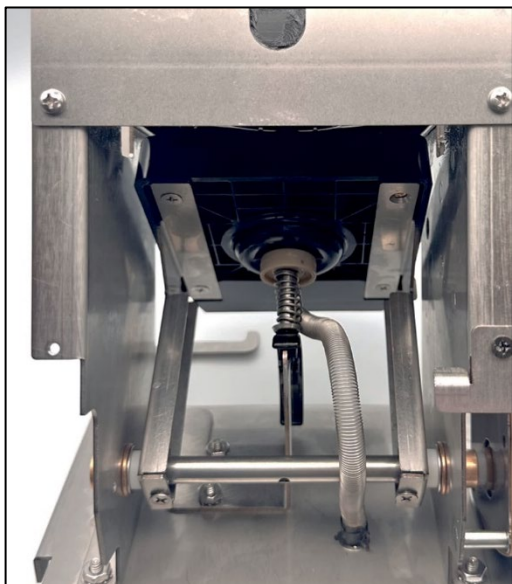

Fig. 8
6. Attach other side of brew tube assembly to the opening in Lower Chamber (Fig 8.)